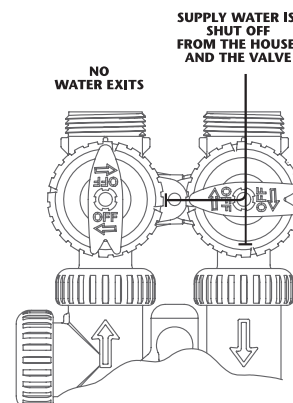

Figure 4
4. **Shut Off Position:** The inlet handle points to the center of the bypass valve and the outlet handle points away from the control valve. The water is shut off to the building. The water treatment system will depressurize upon opening a tap in the building. A negative pressure in the building combined with the softener being in regeneration could cause a siphoning of brine into the building. If water is available on the outlet side of the softener or filter, it is an indication of water bypassing the system (Fig. 4) (i.e. a plumbing cross-connection somewhere in the building).